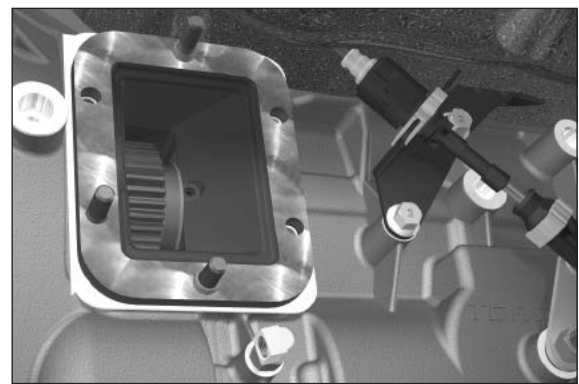

Figure 30
- Install the geared adapter into the transmission aperture and over the studs (**Fig. 30**).